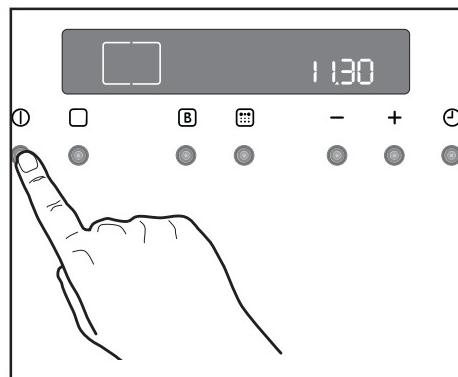

Fig.4
The oven must be switched on before setting any cooking function or programme. When button ① is pressed, the oven symbol will appear in the display, and the oven light will switch on (Fig. 4). To switch off the oven, you can press button ① at any time. Any cooking function or programme will stop, the oven light will switch off and the time display will show the time of day only.